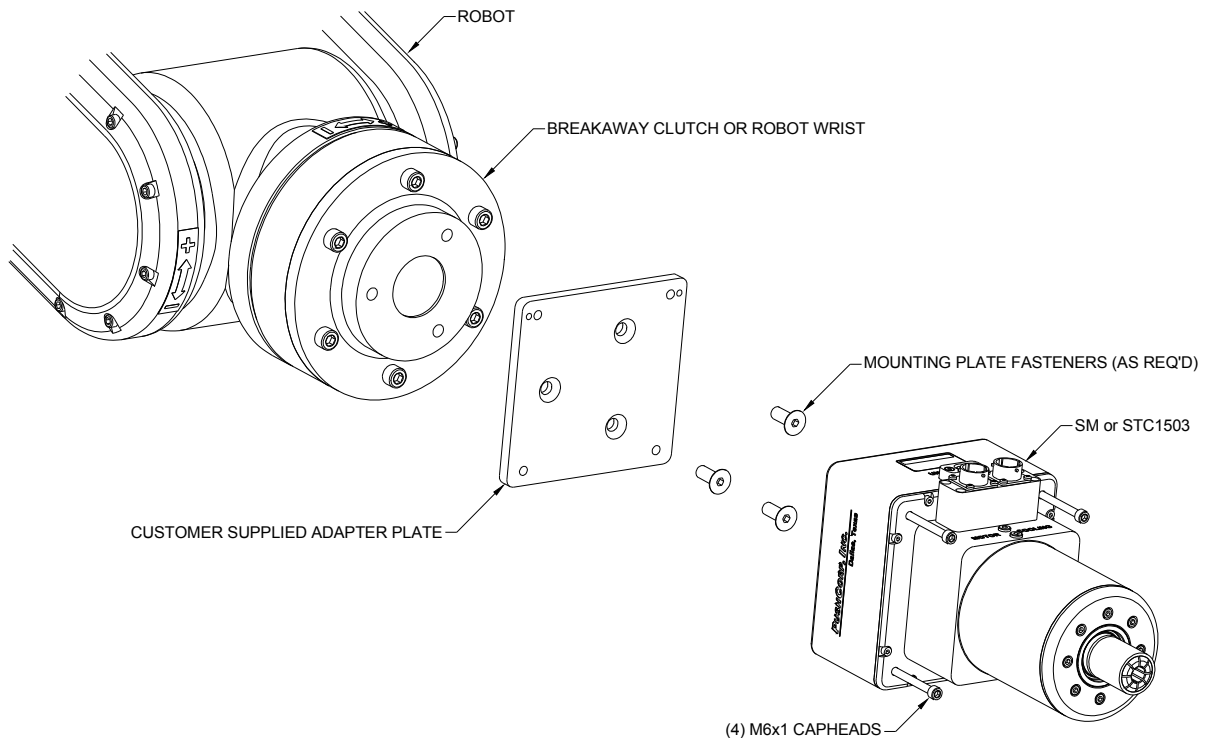

Figure 3. STC1503 Direct Mounting
To mount the 1503, first attach the customer supplied Mounting Plate to the Robot Mounting Flange or to the Breakaway Clutch, per the manufacturer's specifications. Once the Mounting Plate is secured, place the 1503 Series against the Mounting Plate and install (4) four, M6x1, Socket Head Cap Screws (length is dependent on motor SM1503 = 25mm, STC1503 = 100mm, STC1503-BT30 = 145mm). (See Figure 3.) Tighten the fasteners to the torque specified in Section 4.0.